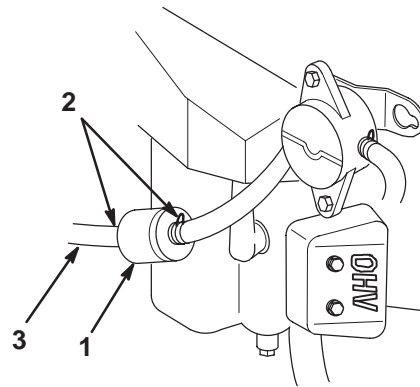

Figure 29
4. Squeeze the ends of the hose clamps together and slide them away from the filter (Fig. 29).
6. Install a new filter and move the hose clamps close to the filter (Fig. 29).
5. Loosen the hose clamp at the fuel filter and slide it up the fuel line away from the fuel filter (Fig. 29).
6. Pull the fuel line off of the fuel filter (Fig. 29).
- Install the fuel line onto the fuel filter. Slide the hose clamp close to the fuel filter to secure the fuel line (Fig. 29).